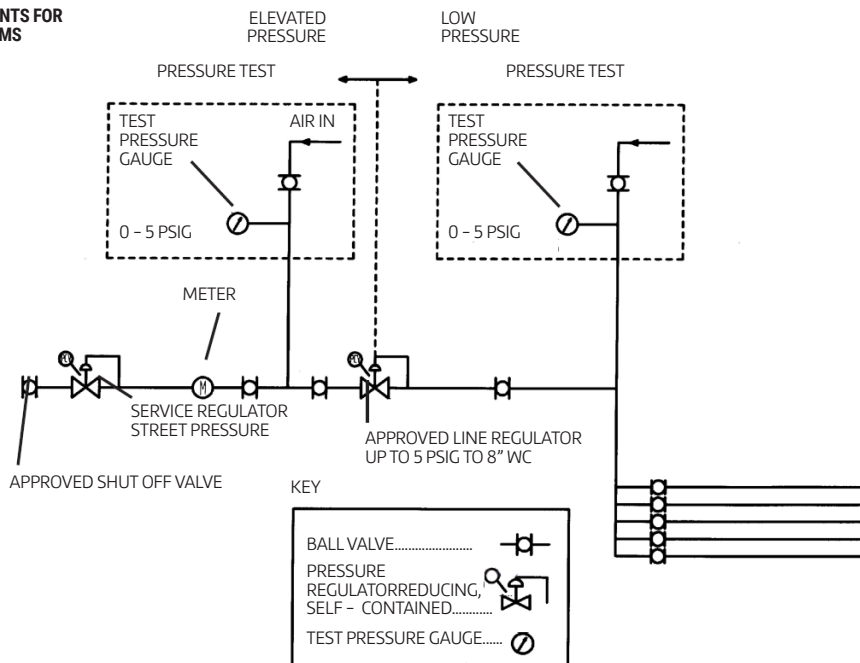

Figure 7.1
- The elevated pressure system requires a two-part pressure test. (See Figure 7.1)